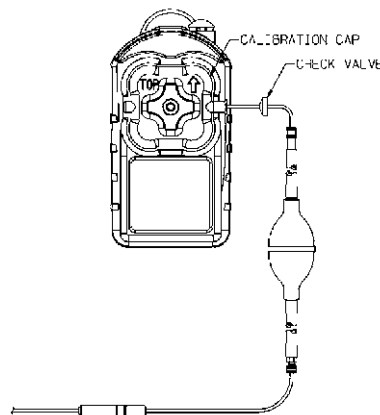

Figure 1. Remote Sampling with the Solaris Detector
1. Attach the calibration cap securely to the Solaris unit by using the thumb screw provided on the calibration cap (FIGURE 1).